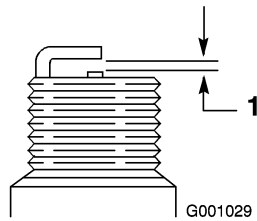

Figure 45
- Set the gap between the electrodes on the spark plug at 0.030 inch (0.76 mm) (Figure 45).